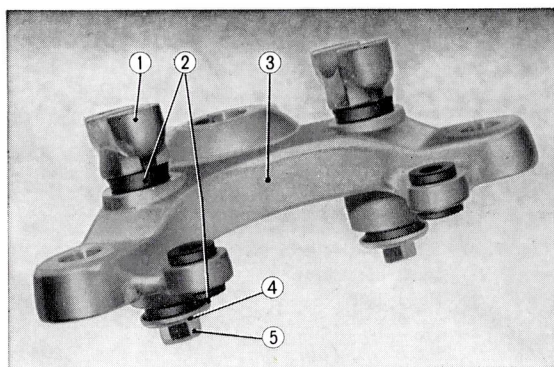

Fig. 4.13 Component parts of fork top bridge
5. Unscrew the 10mm hex nut and remove the front fork washer, handle bar cushion rubbers and the handle bar pipe under holders from the front top bridge. (Fig. 4.13)